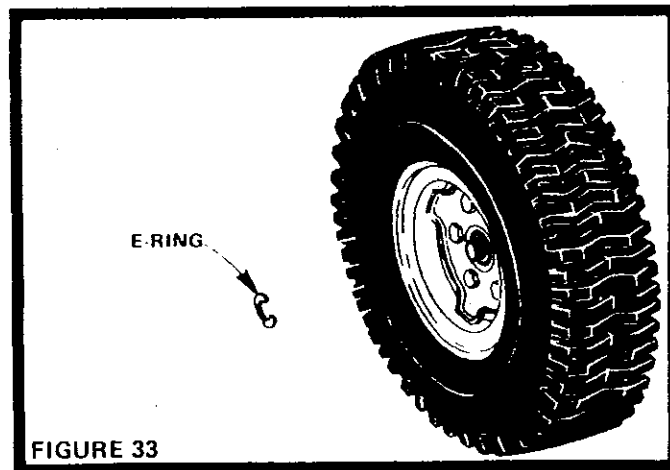

FIGURE 33
- Block up Rear Axle securely or use a Tractor Jack. Remove left rear wheel by removing E-Ring (Fig. 33).
- Block up Rear Axle securely or use a Tractor Jack. Remove Left Rear Wheel by removing E-Ring (Fig. 33).
- e. Removing rear wheel for tire repair (Fig. 33).